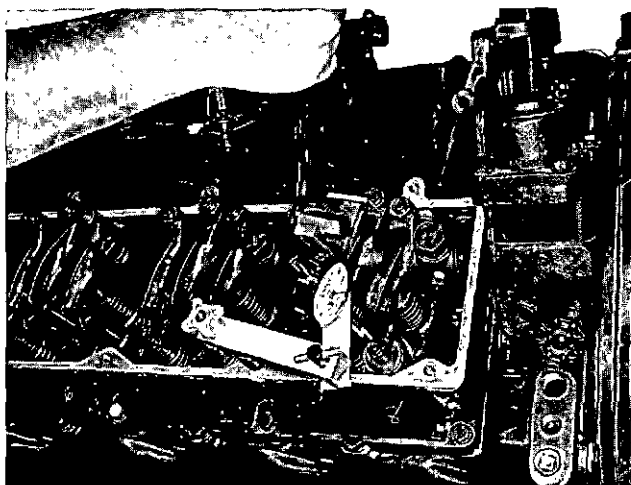

Fig. 2-52 (V514105) Bottoming injector plunger in cup, V-903 series
3. Using ST-1251 rocker lever actuator, Fig. 2-52, bar injector rocker lever forward until plunger is bottomed in cup to squeeze all oil film from cup.
4. Allow the injector plunger to rise and then bottom again and set indicator at zero (0); release and bottom plunger again to check setting.